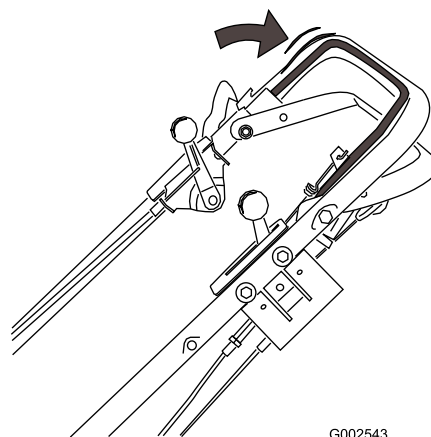

Figure 13
2. Pull the blade control bar to the handle and hold it (Figure 13).